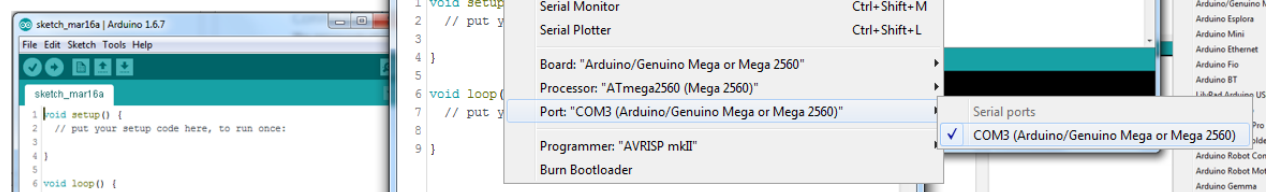

Figure 3 Selecting the Com port
2. Under the menu **Tools**→**Port**, select the COM port with the 'Arduino / Genuino Mega', (this will be a port number higher than COM1), figure 3.
An empty program with 'void setup()' and 'void loop()' will be shown as in fig 3. This is where you will write your program.